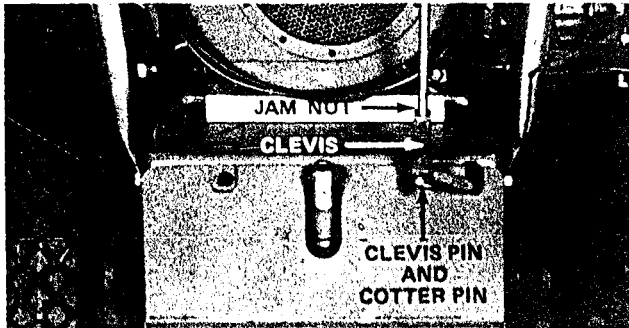

Figure 4
2. Rotate clevis (Fig. 4) on end of control rod until holes in clevis line up with hole in bent rod. Next, secure clevis and bent rod together with clevis pin and cotter pin (Fig. 4).
3. Bottom jam nut firmly onto clevis (Fig. 4).